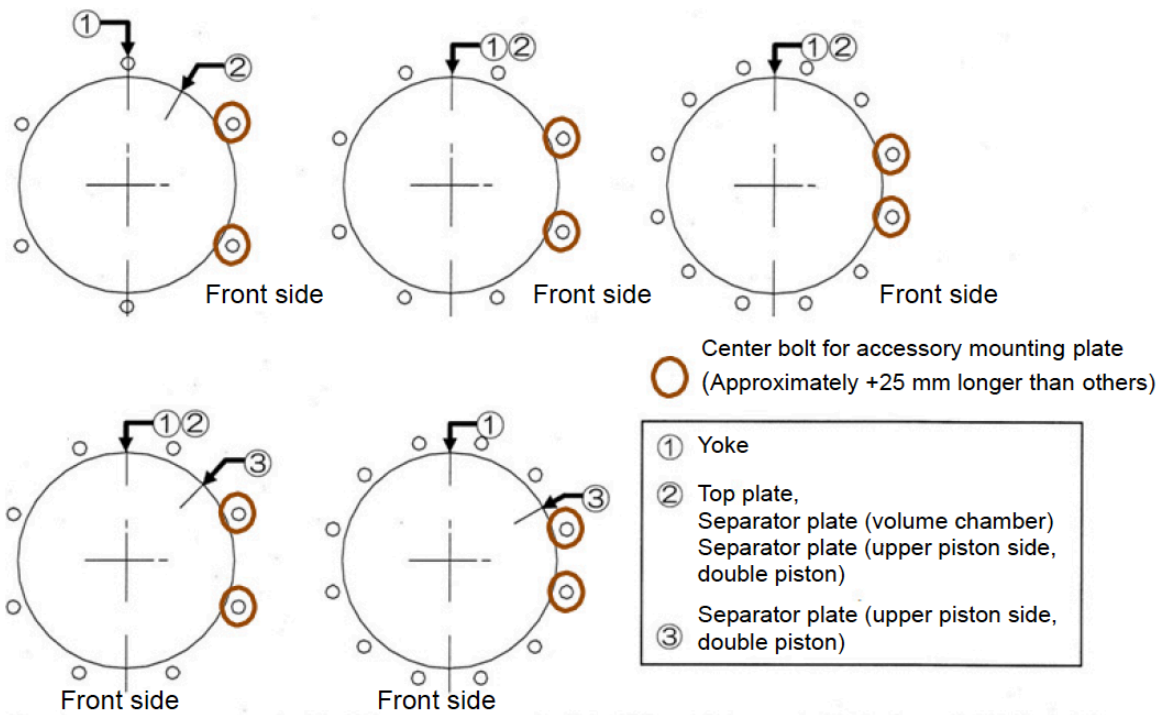

Figure 11 - Center Bolt Positioning
10. Replace O-rings (21) and Guide Ring (16) with new parts. Coat the O-ring and Guide Ring with silicone grease (or equivalent).
11. Replace Cylinder Tube (14), Separator Plate (69), Volume Chamber Tube (70), Top Plate (17). Coat the inner surface of the Cylinder Tube with silicone grease (or equivalent).
12. Ensure the positions of the air connections are correct. Insert the Center Bolts into the holes of the Top Plate and Yoke. Mount the Spring Washers and Nuts and tighten them lightly by hand. Mount the Spring Washers and Nuts to the bottom side of the Yoke by hand. Ensure that the position of Center Bolts (Approximately +25 mm longer than others) for the accessory mounting plate, if equipped, complies with Figure 11.